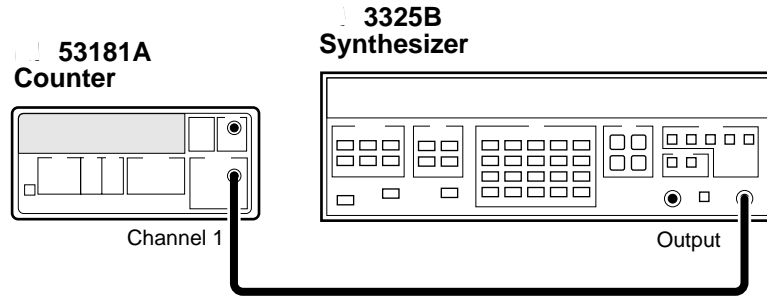

Figure 1-11. Trigger Level Test Setup
- 1 **Connect the output of the Agilent 3325B to Channel 1 of the Counter as shown in Figure 1-11.**